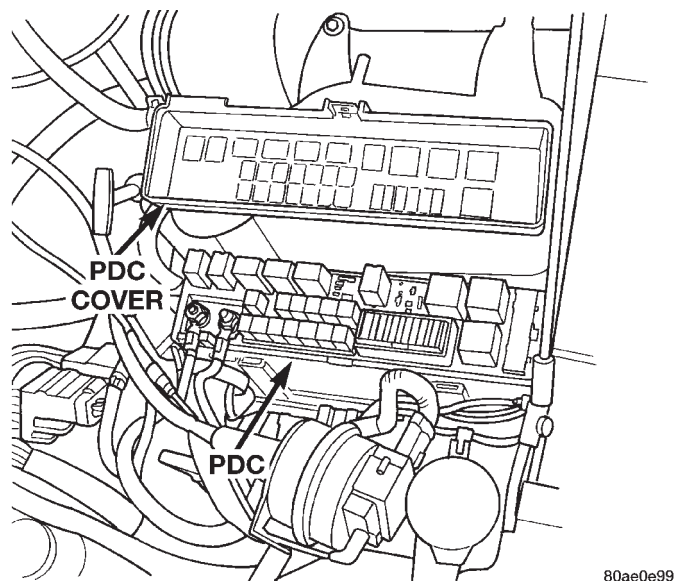

Fig. 29 Power Distribution Center
(1) Remove the Power Distribution Center (PDC) cover. Check for blown fuses. Ensure all relays are properly installed (Fig. 29).